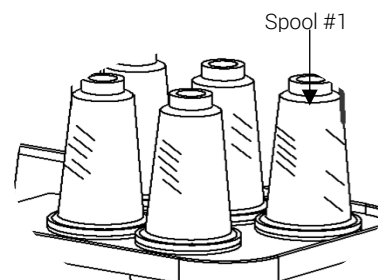

Figure 46
1. Pull out the thread from spool #1. See Figure 46.